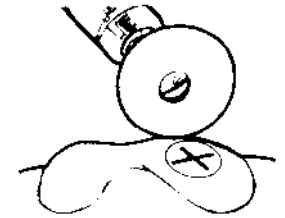

Fig. 2
2. Cut several grooves in the flattened occlusal surface just slightly larger than the base of the attachment (Fig. 2). These grooves will create flow channels for the solder and result in a strong solder joint.